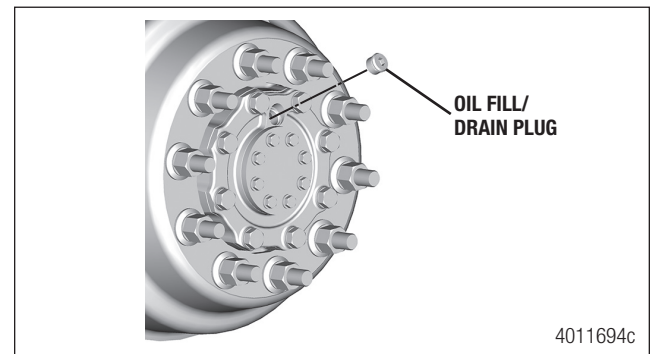

Figure 11.1
1. Rotate the hub so the fill/drain plug is at 12 o'clock position. Figure 11.1.